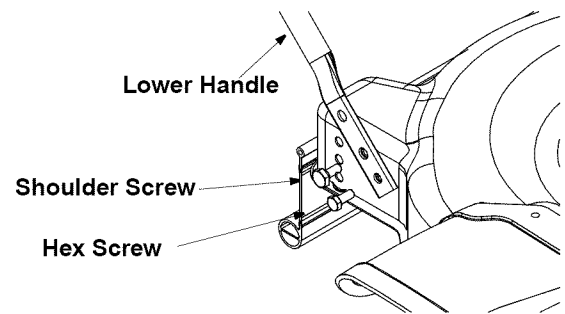

Figure 3
3. Install the hex screws, shoulder screws and flange nuts from group 4 of the hardware pack. Using two 1/2" wrenches, tighten securely. See Figure 3.